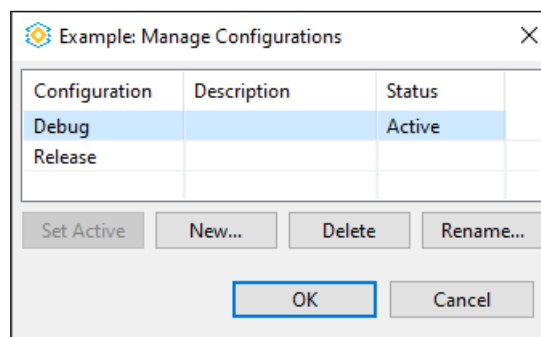

Figure 3.29. Manage Configurations Dialog
- b. The **Manage Configurations** dialog opens (Figure 3.29) for choosing the active configuration. By default, a **Debug** configuration creates executables containing additional debug information that lets the debugger make direct associations between the source code and the binary files generated from the original source. A **Release** configuration provides the tools with option settings to create an application with the best performance.